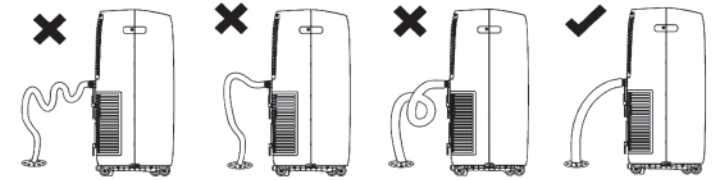

Fig 16.1
- 5. Make sure that there are no kinks or knots in the garden hose (Fig 16.1).